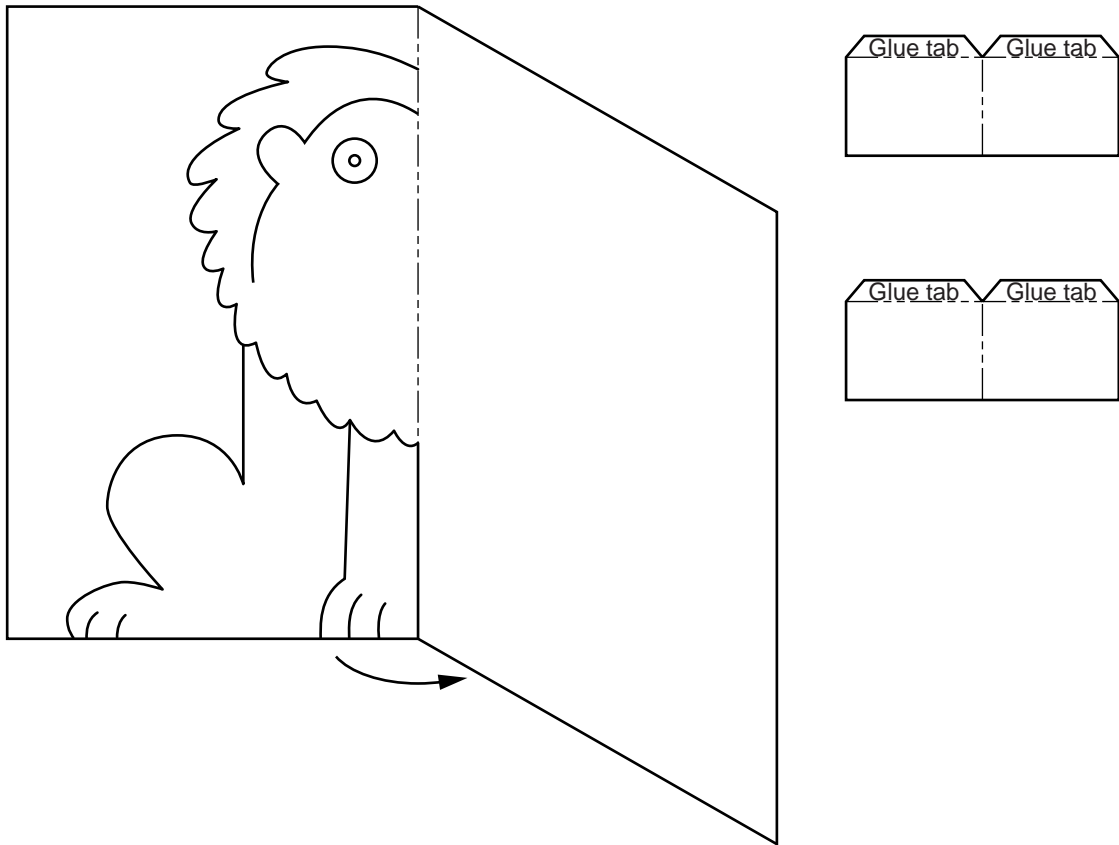

Fig. 3
- 3 Fig. 3 shows the three incomplete parts required to make a pop-up card with a V-fold mechanism. The two smaller pieces of card are glued onto the head of the lion to form a mouth. When the card is opened the mouth of the lion closes. The pop-up card will be made in a school workshop.